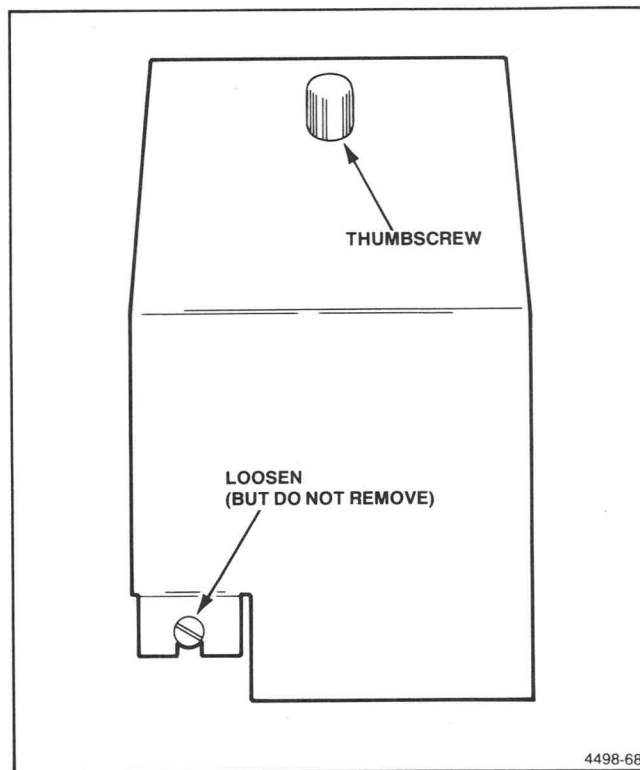

Figure 8-2. Carriage Cover Screw Locations.
2. Loosen (but not remove) the screw holding the lower left corner of the carriage cover (see Figure 8-2).
3. Loosen the thumbscrew holding the carriage cover (see Figure 8-2).